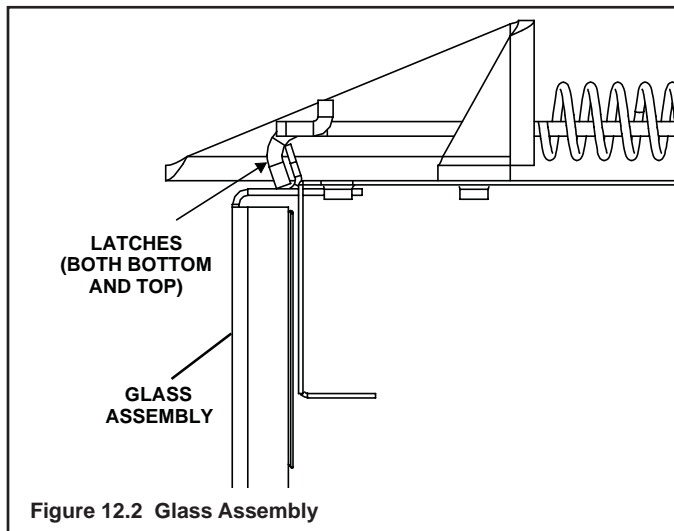

Figure 12.2 Glass Assembly
- When placing Glowing Embers® onto the burner care should be taken so that the ports are not covered. Place the dime-size ember pieces about 1/2 inch apart near port holes in burner top, but not on or in between the ports. For best performance do **NOT** place embers on ports at rear of burner (see Figure 12.2). Failure to follow this procedure will likely cause lighting and sooting problems.
Pull the four glass assembly latches out of the groove on the glass frame. Remove glass door from the appliance (see Figure 12.2).